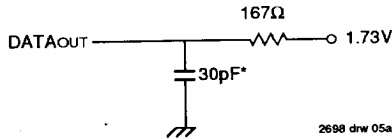

Figure 1. Equivalent Output Load
Output Load	See Figures 1 & 2
1. Transition is measured ±500mV from low or high impedance voltage with load (Figures 1 and 2).